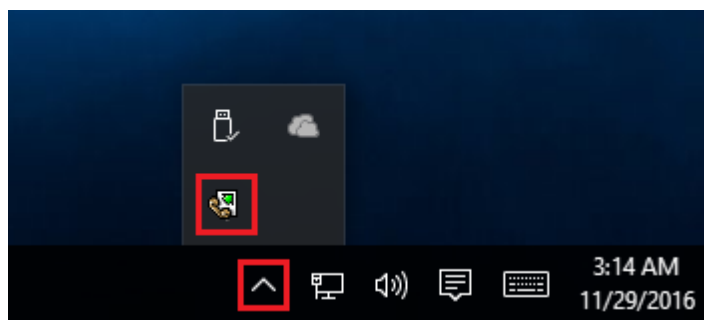

Fig. 6.1.2 Systray - panel near clock
- **Start in minimized state** - at start Data Logger Suite will automatically put its icon on panel near clock (SysTray fig. 6.1.2);